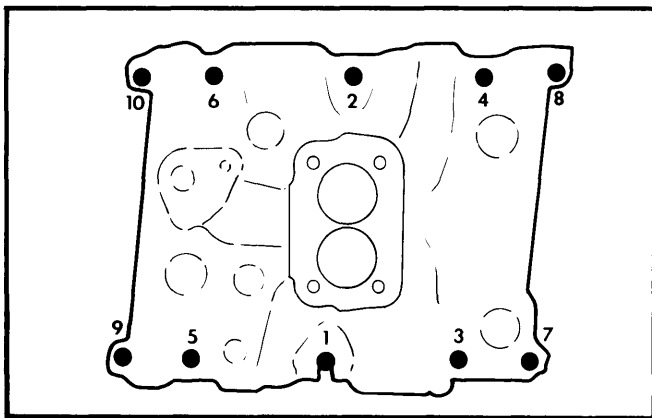
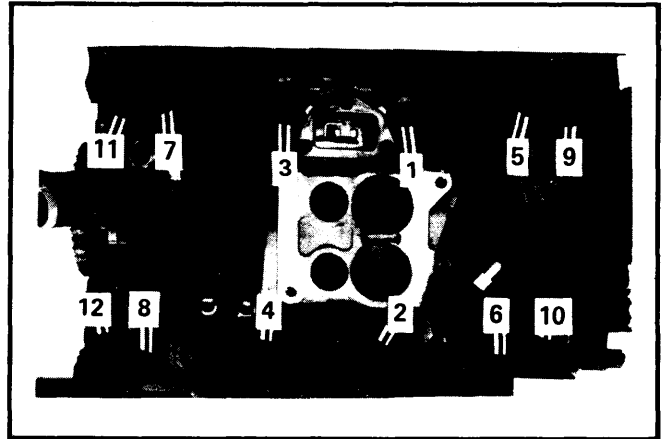

Fig. 1 Intake Manifold Tightening Sequence V6
Fig. 2 Intake Manifold Tightening Sequence V8
**Installation** – Install new intake manifold gaskets and position new rubber seals on front and rear rails on cylinder block. Make sure pointed end of rail seals tight against block and head. Apply RTV sealer or equivalent to end of seals. Install intake manifold and tighten bolts in sequence shown in Fig. 1 and Fig. 2.